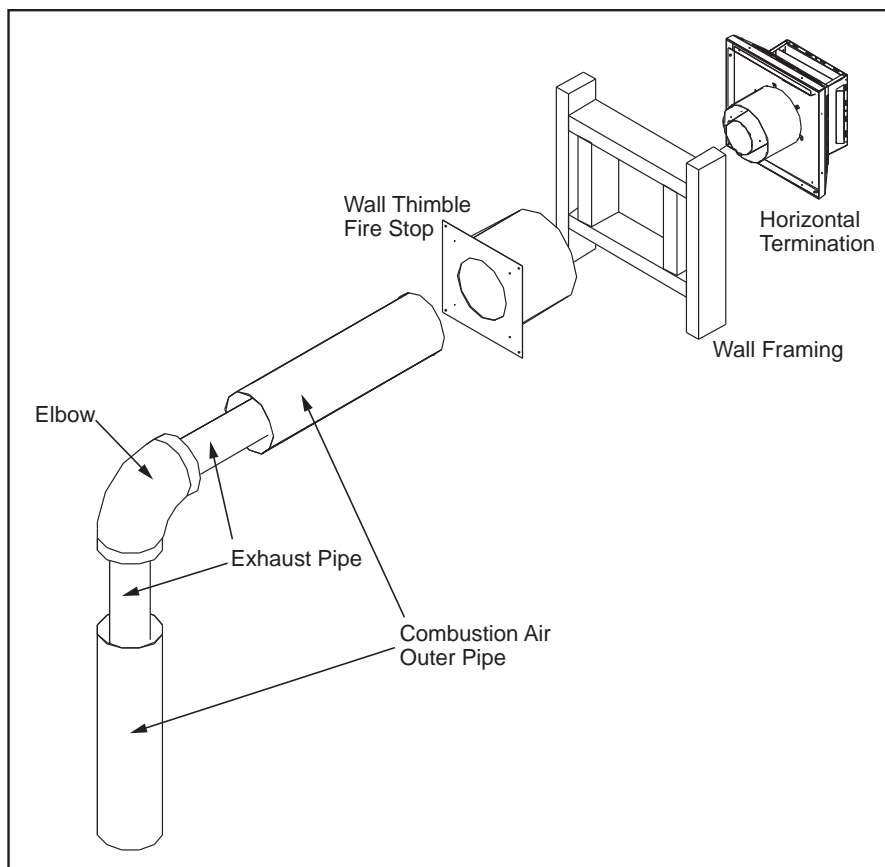

Figure 47. Horizontal Vent Termination
Step 3. With the pipe in the correct position and attached to the fireplace, mark the wall for a 10 inches (25.4 cm) x 10 inches (25.4 cm) square hole (see Figure 47). The center of the hole should match the center line of the horizontal pipe. Cut and frame the hole in the exterior wall where the vent will be terminated. If the wall being penetrated is made of a non-combustible material (i.e. masonry or concrete) a 7 inches (17.8 cm) hole is acceptable.